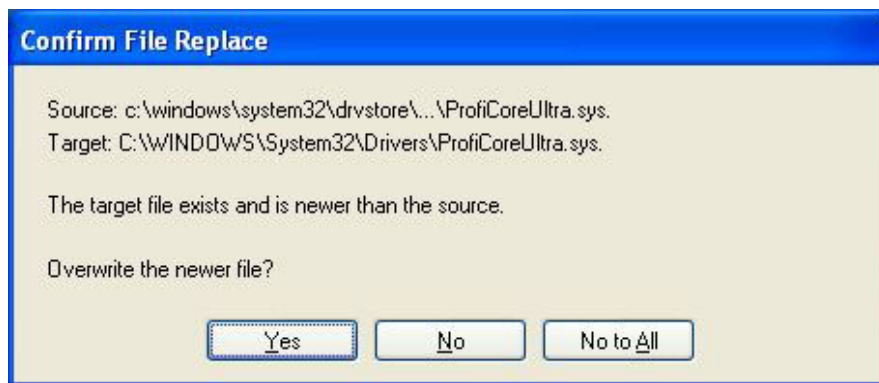

Fig. 2 – Warning prior to replacing drivers (confirm with Yes)
- ☐ Install the new version on-top of the directory from the previous version. If you are confronted with a warning about existing drivers which seems to be newer (see **Fig. 2**), just click ‘Yes’ and overwrite them.